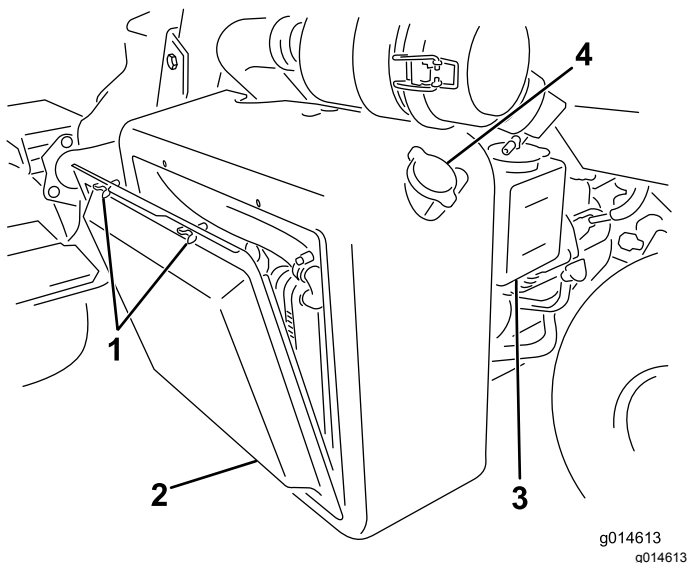
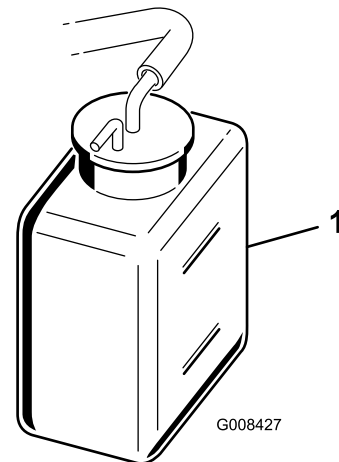

Figure 38
Figure 39
1. Remove the radiator screen (Figure 38).
2. Check the coolant level (Figure 38 and Figure 39).